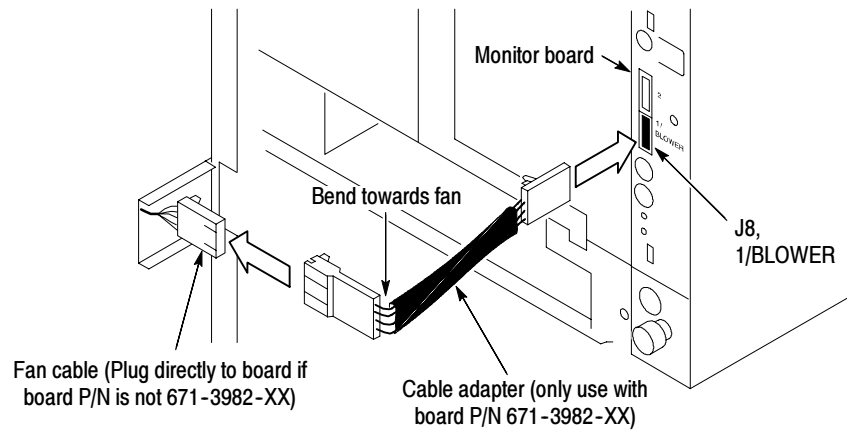

Figure 3: Attach the fan cable (and cable adapter, if necessary)
4. If the monitor board part number is 671-3982-XX, then slide the monitor board into the chassis and secure it with the two screws. Plug the cable adapter that came with the kit into J8, 1/BLOWER on the monitor board. Bend the cable adapter towards the fan at the shrouded connector end. See Figure 3.